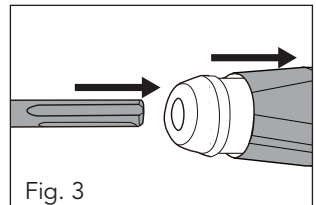

Fig. 3
1. Pull the accessory locking sleeve (2) back towards the body of the demolition hammer and hold. Rotate and insert the SDS Max accessory, making sure it has been inserted as far as it will go, then release the accessory locking sleeve (2) (Fig. 3).